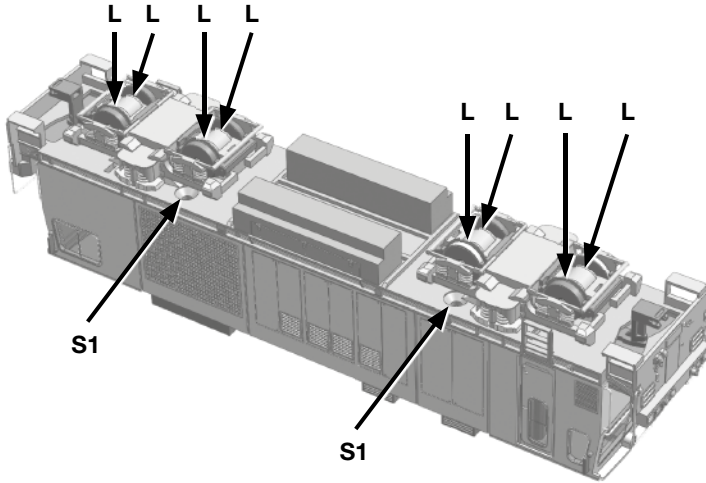
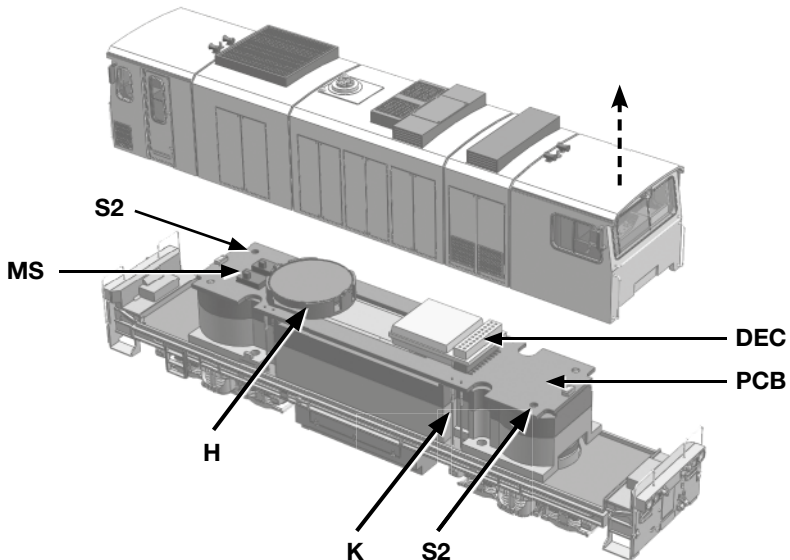

Fig. 2
Fig. 3
After cleaning, lubricate the bearings (L) as shown in **Fig. 2** with a drop of light machine oil. Use commercially available light lubricating oil, applied with a fine hollow or solid needle.
The locomotive housing has to be removed to lubricate the gears, install a decoder or to exchange a motor. To do this remove the four screws **S1** on the underside of the bogie as shown in **Fig. 2**. You can then lift the housing off as shown in **Fig. 3**. The 21-pin interface (NEM 660) **DEC** for the fitting of a decoder is located at the top of the board. It also has a holder **H** for a loudspeaker for a diameter of 20mm. To the left of this there is a multiswitch **MS** for the light options. Read the section of the light options later on.
Before undertaking the conversion, please ensure that all functions run OK in analogue direct current operation. The first conversion steps have already been described in **Fig. 3**. You can now remove the jumper and replace with the decoder.